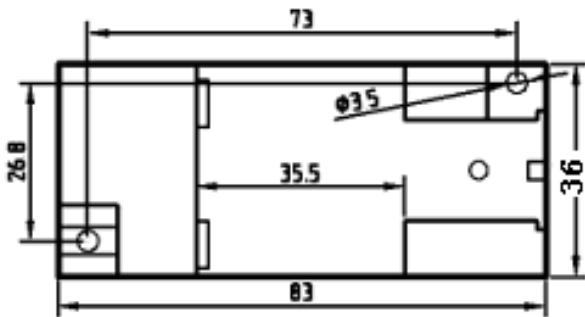

Figure 6: Mounting dimensions
Rail mounting dimensions: 35mm; screws installation size: 73X26.8mm; as shown in Figure 6 (in mm).。
- ①The transducer fixed on the side of the card slot and hook on the mounting rail;
- ②Pull the spring pin down;
- ③Clip the transducer mount on the mounting rail;
- ④Release the spring pin and clip the transmitter on the mounting rail.
- ①4mm diameter hole in the fixed plate according to the position of the screw hole shown in Fig. 6;
- ② Use the screw Φ3 to insert into hole and secure it.